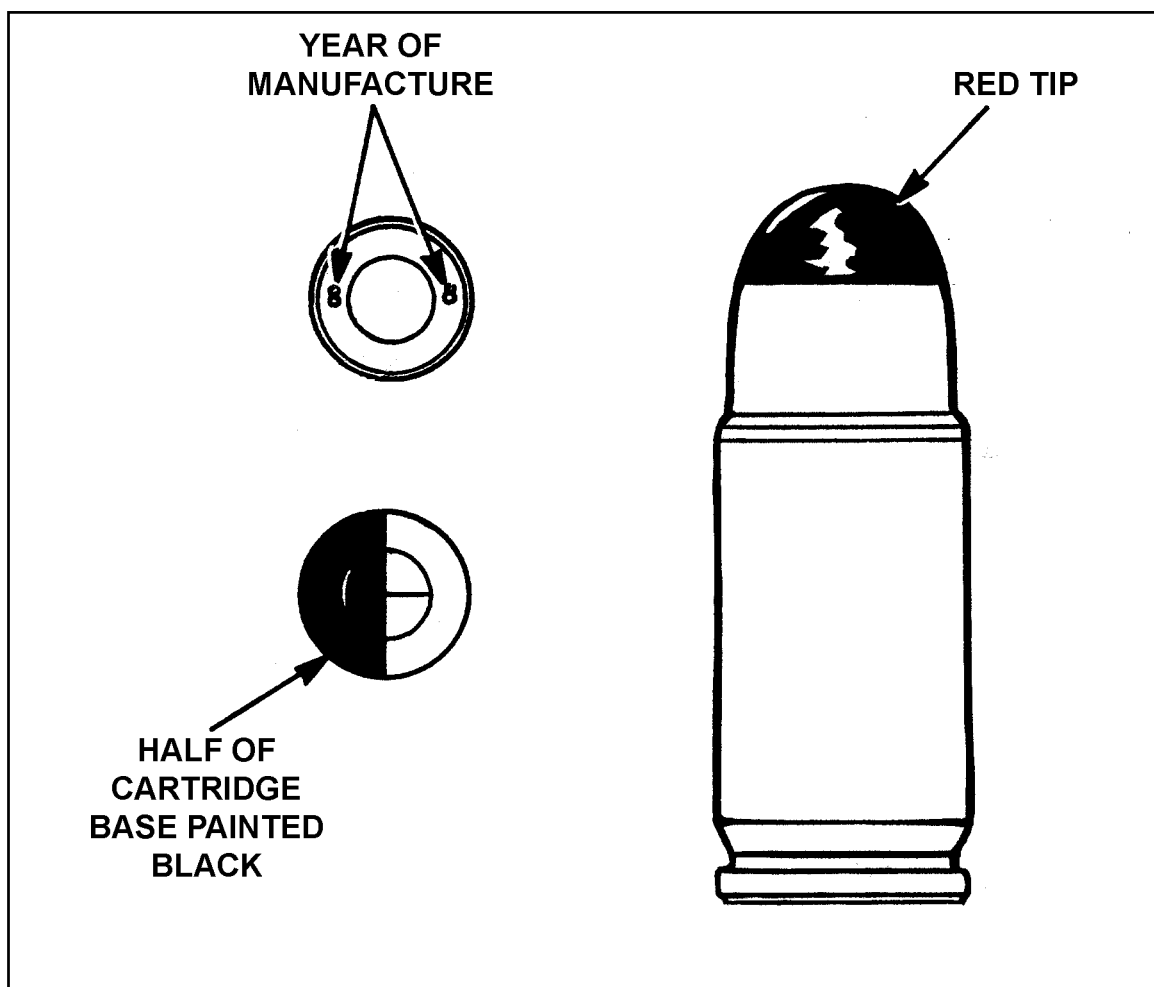

Figure B-8. M939, 9-mm tracer cartridge.
c. **Ammunition.** The M939 9-mm tracer cartridge has a lighter powder charge than a standard 9-mm bullet. The lighter charge enables the cartridge to closely duplicate the trajectory of the AT4 tactical round at ranges out to 700 meters. The M939 cartridge also has a tracer element to enable the firer to compare the impact of the cartridge with the sight picture. The firer can see the tracer out to 550 meters. Firing the M287 tracer trainer helps the firer learn the correct sight picture for moving targets. The cartridge's red tip and half-black base (Figure B-8) distinguishes it from standard 9-mm ammunition, which should never be fired from the M287 tracer trainer.